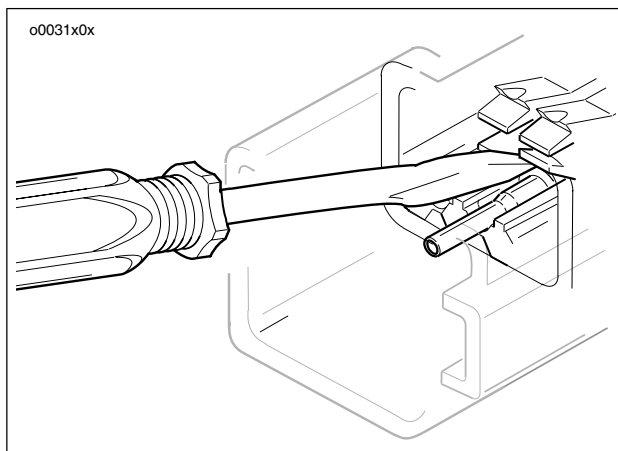

Figure 2-13. Internal Deutsch Terminal Latches
- b. See Figure 2-13. Depress internal terminal latches and pull socket terminals out of the wire seal.